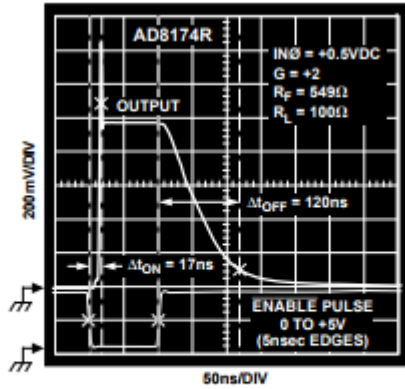

Figure 5. Enable and Disable Switching Characteristics
- 1Shutdown (SD) and  $\overline{\text{ENABLE}}$  pins are grounded (AD8174). IN0 (or IN2) = +0.5 V dc, IN1 (or IN3) = -0.5 V dc. SELECT (A0 or A1 for AD8174) input is driven with 0 V to +5 V pulse. Measure transition time from 50% of SELECT (A0 or A1) input value (+2.5 V) and 10% (or 90%) of the total output voltage transition from IN0 (or IN2) channel voltage (+0.5 V) to IN1 (or IN3 = -0.5 V) or vice versa.
- 2AD8174 only. Shutdown (SD) pin is grounded.  $\overline{\text{ENABLE}}$  pin is driven with 0 V to +5 V pulse (5 ns rise and fall times). State of A0 and A1 logic inputs determines which channel is activated (i.e., if A0 = Logic 0 and A1 = Logic 1, then IN2 input is selected). Set IN0 (or IN2) = +0.5 V dc, IN1 (or IN3) = -0.5 V dc, and measure transition time from 50% of  $\overline{\text{ENABLE}}$  pulse (+2.5 V) to 90% of the total output voltage change. In Figure 5,  $\Delta t_{OFF}$  is the disable time,  $\Delta t_{ON}$  is the enable time.